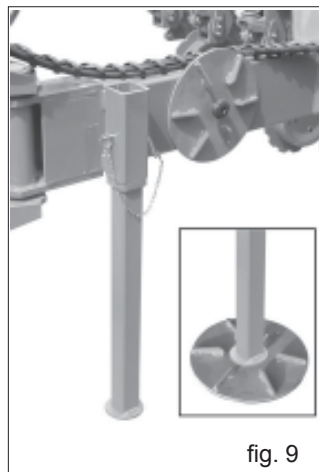

fig. 9
- 3) Raise the feet (Fig. 9).
- 1) Lower the supporting base elements (Fig. 9).